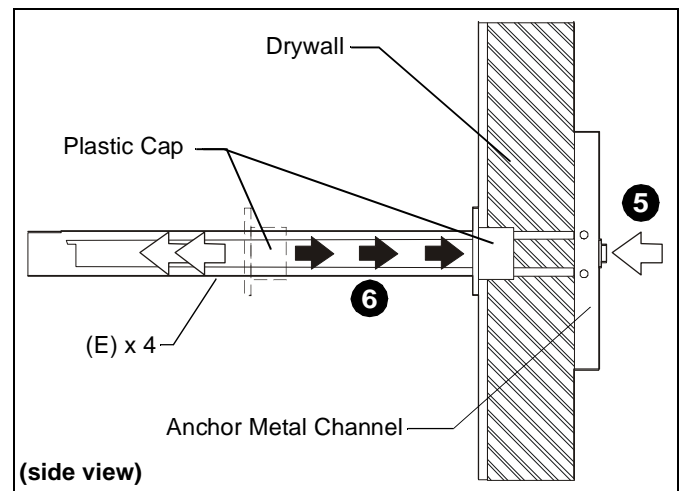

Figure 4
5. Holding plastic straps on anchor, pull anchor away from wall until channel rests flush behind wall making sure anchor channel is positioned vertically behind drywall. (See Figure 4)
6. Slide plastic cap on anchor towards wall until flange of cap is flush with wall. (See Figure 4)